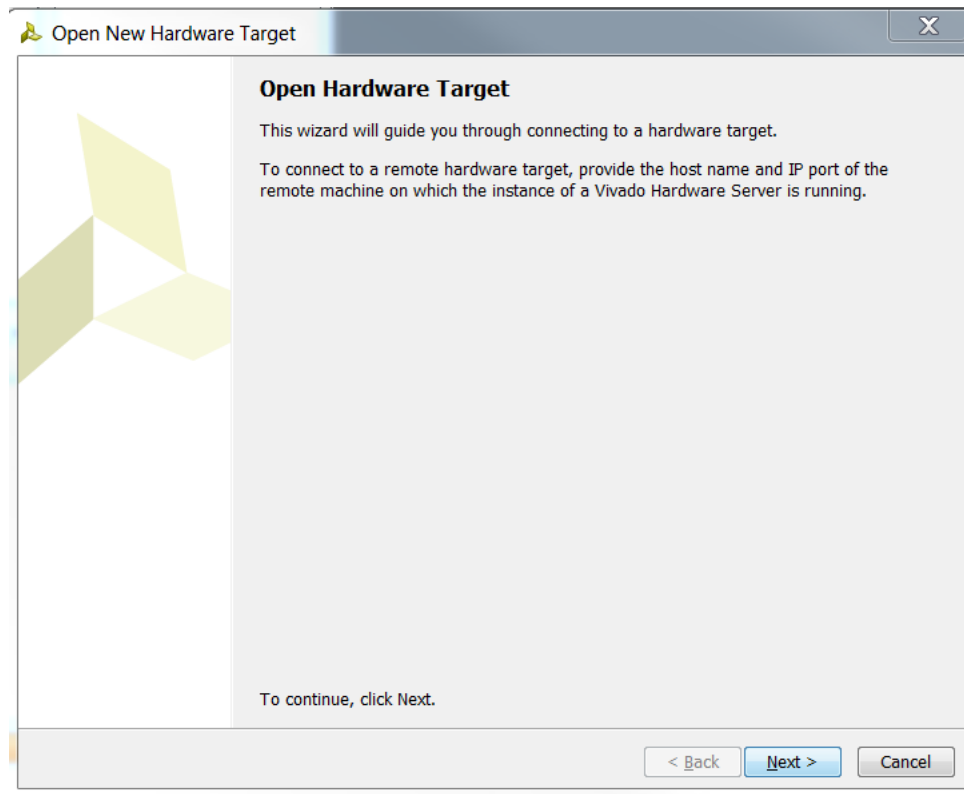

Figure A-4: Open Hardware Target
5. Click **Next** on the Open Hardware Target Panel (see Figure A-4).